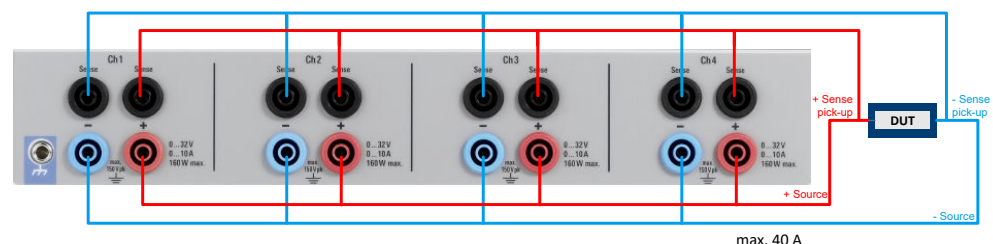

Figure 5-3: Example of a parallel connection
2. As shown in Figure 5-3, connect the [+] output connectors of all channels.
- Similarly to the source lines, connect the sense lines to each channel in parallel, as shown in Figure 5-3.